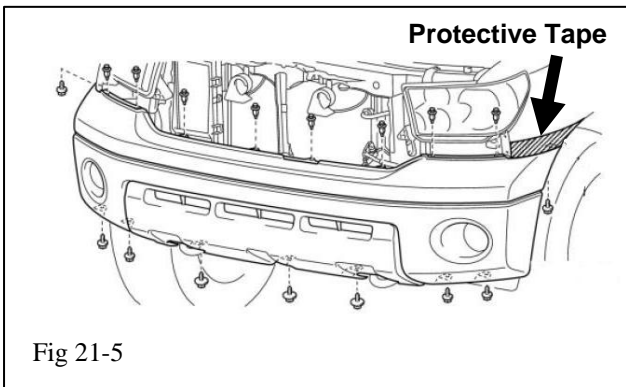

Fig 21-5
- (e) Using the same procedure for both sides, put protective tape on each side as shown (Fig 21-5). Using a clip remover, remove the 8 clips. Remove the 9 screws.